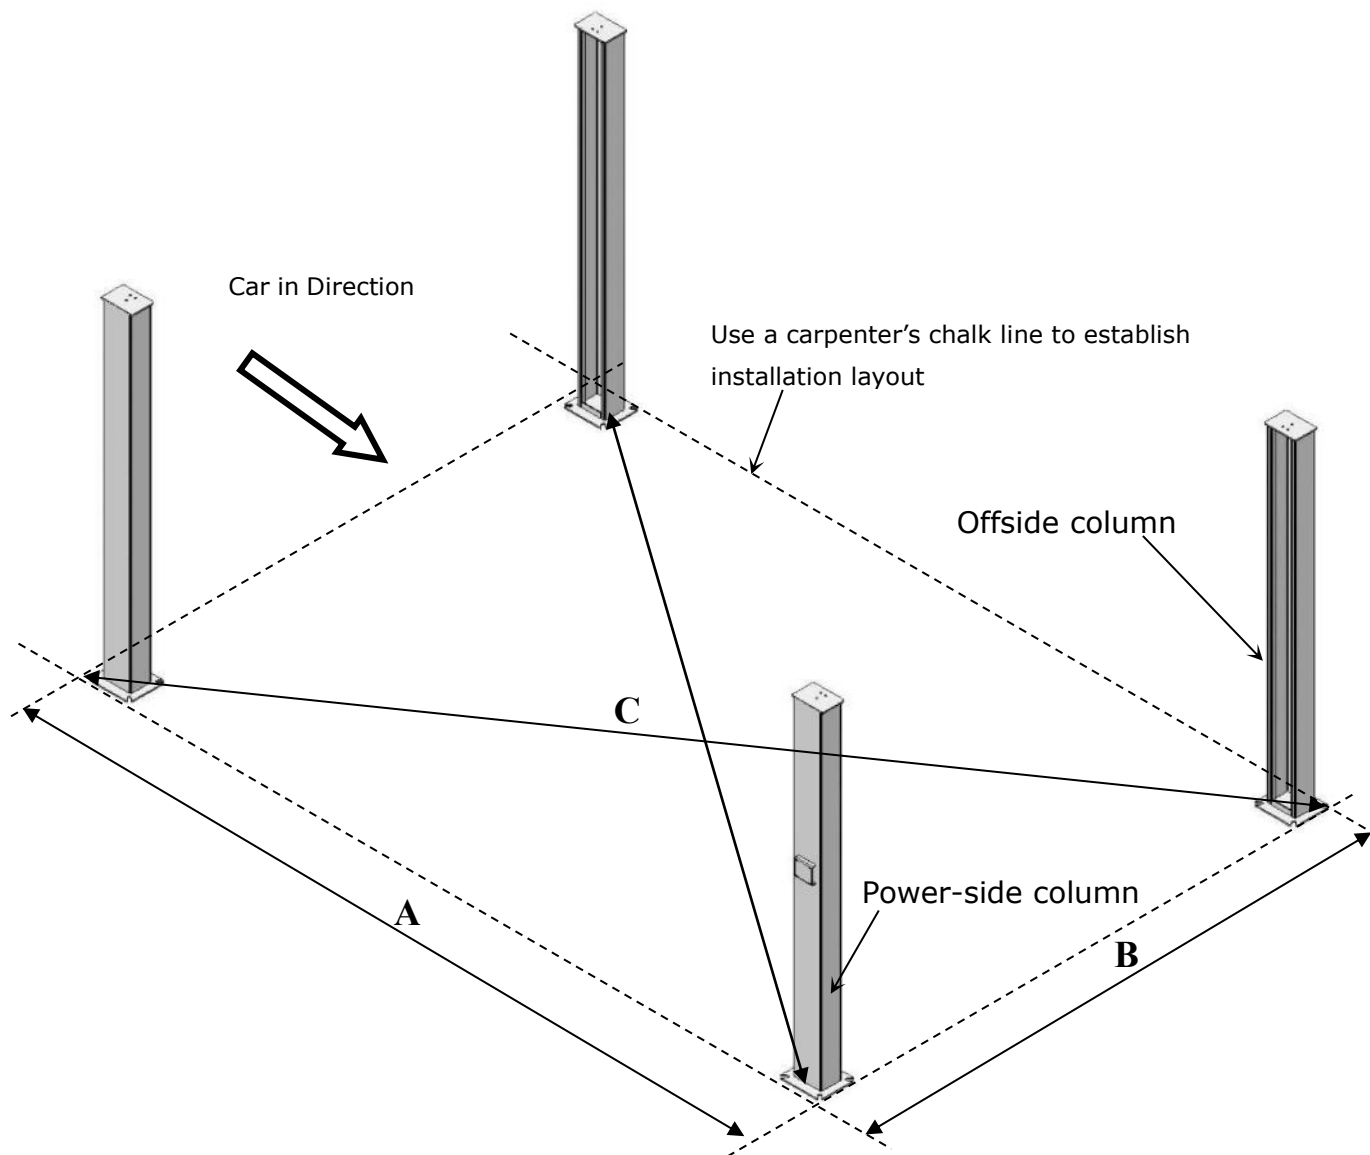

Fig. 12
C. Use a carpenter's chalk line to establish installation layout , make sure the size is right and base is flat (**see Fig. 12**).